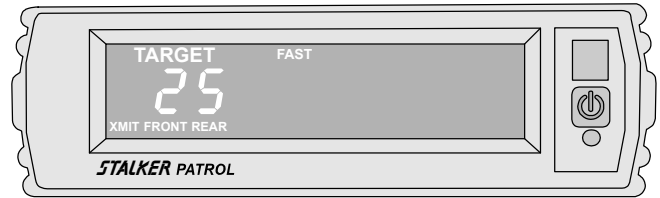

Fig 44
Two (2) tuning forks are supplied for **STALKER PATROL**. The tuning forks are calibrated for 25 mph and 40 mph (40 and 64 kph). To perform the tuning fork test, power the unit ON (press **PWR** switch), select stationary mode (press **MOV/STA** key), select the front antenna (press **ANT** key), and place the unit in transmit mode (press **XMIT** key). Strike the 25 mph tuning fork against a hard nonmetallic surface, such as the heel of a shoe. Quickly hold the tuning fork approximately two (2) inches in front of the antenna, with the narrow edge of the fork facing the antenna. The target window should indicate  $25 \pm 1$  mph (40 kph) (Fig 44). Repeat the above test with the 40 mph (64 kph) tuning fork. Select the rear antenna, if purchased, and repeat both tuning fork tests. *Note: We recommend that the tuning fork test be performed on each antenna. Some departments perform this test both before and after each citation. Check your department policy.*